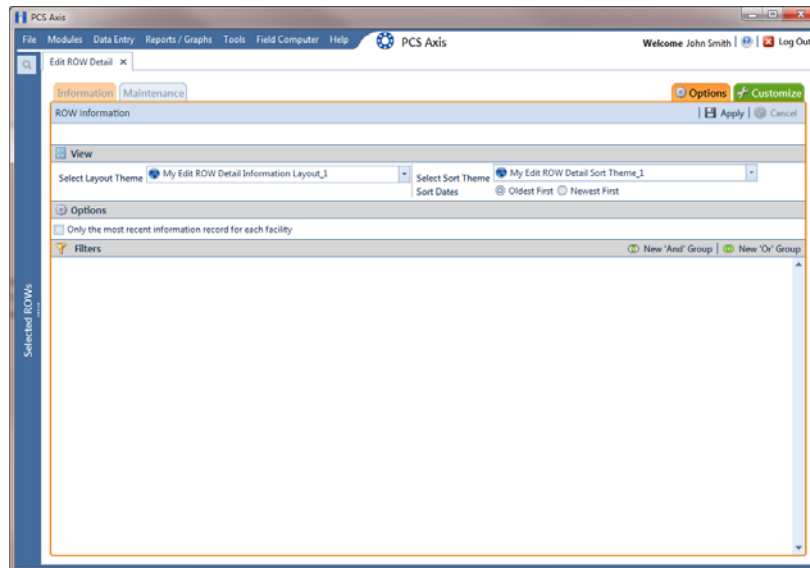

Figure 4-39. Options
- a Click the **Options** tab  to open the options page (Figure 4-39, page 138).